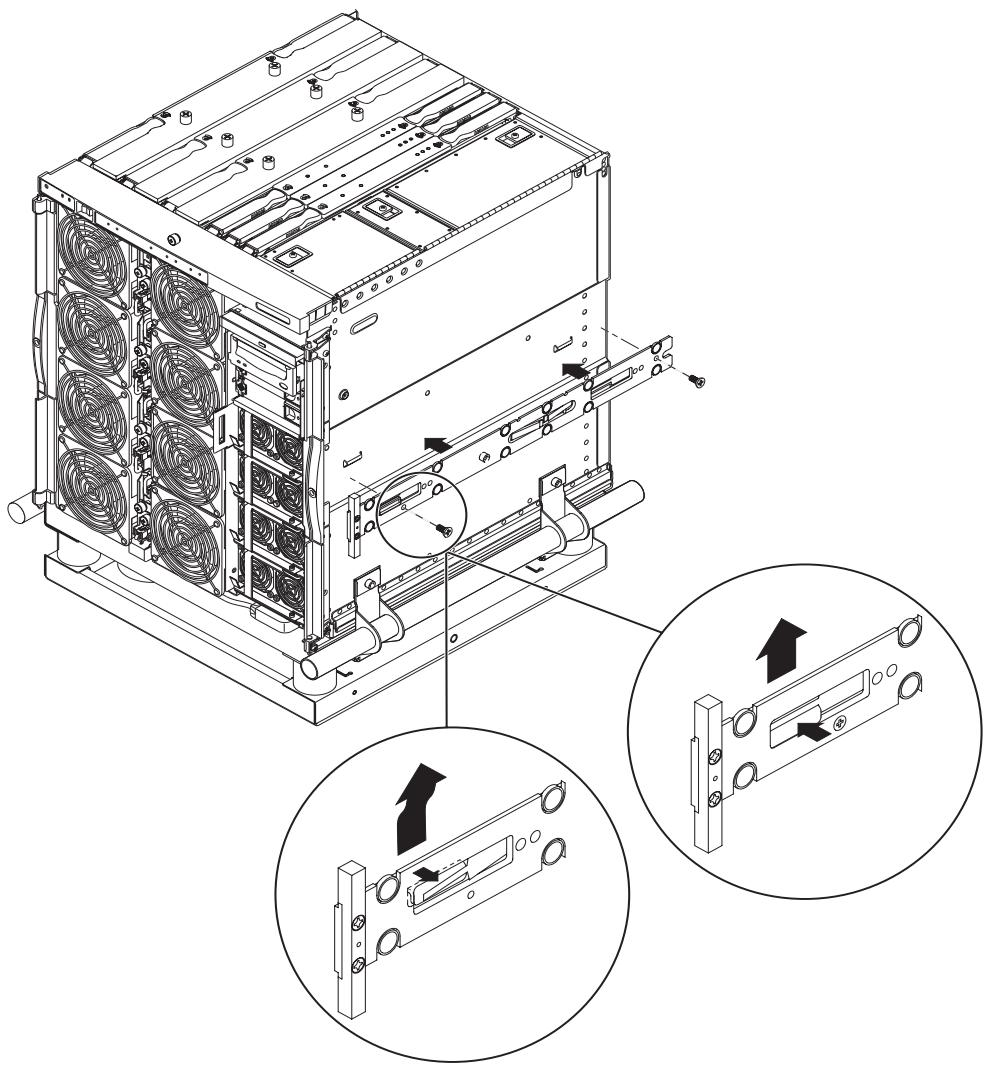

FIGURE 1-3 Spring Clips and Cutouts
2. Push up on the inner slide so that the locating tab, on the side of the system, clips over the cutouts in the slide (FIGURE 1-3).